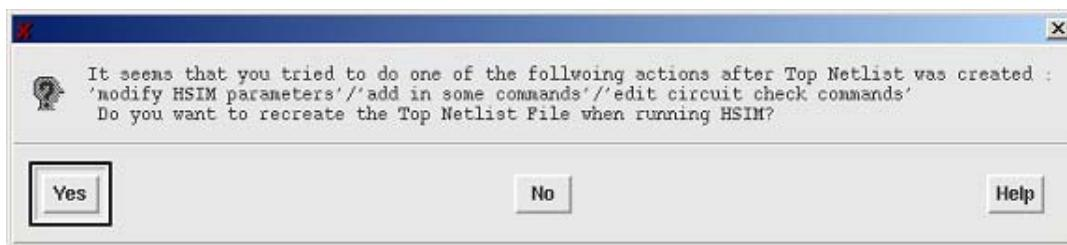

Figure 49 Top Netlist File Regeneration Confirmation Window
- If parameter settings are modified and HSIM -> Run HSIM is run directly without updating the top netlist, Native Netlist Integration displays a confirmation dialog box asking whether the Top Netlist File should be recreated when running HSIM as shown in Figure 49. Use the [Yes] or [No] screen buttons to tell the system whether to update the Top Netlist File or not.